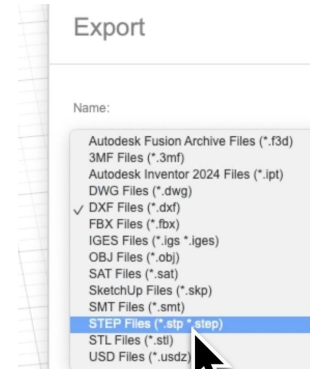

Figure 1.6
- Choose your desired file type (DXF, STEP, etc.). You will see all the file types here (see Figure 1.6).